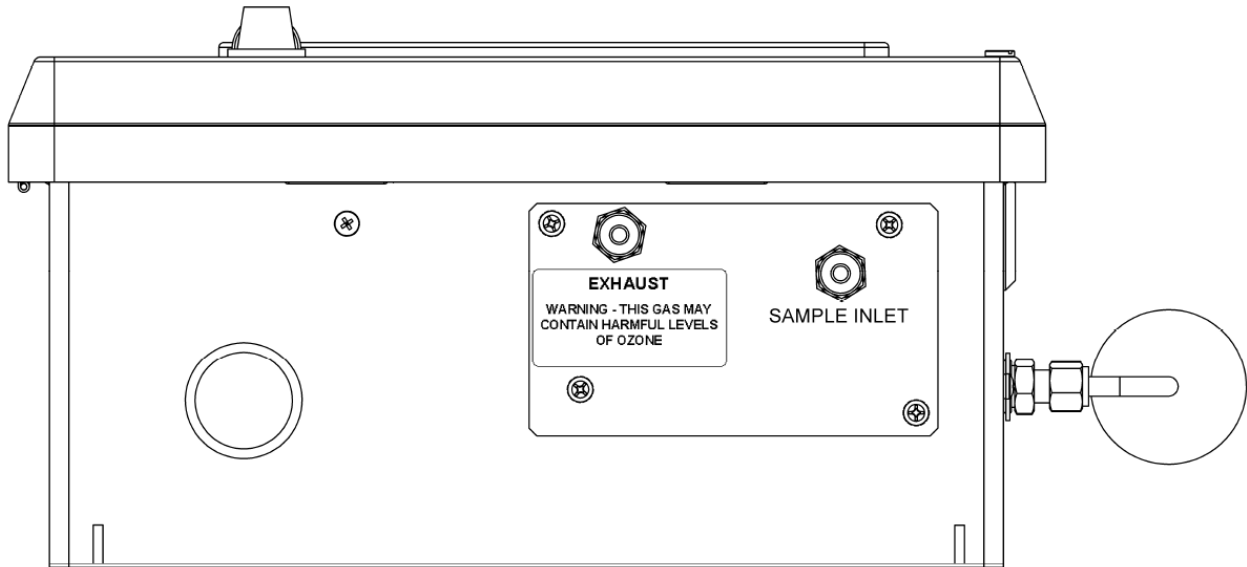

Figure 4-3: Pneumatic Connections
3. Connect sample inlet line(s) to the SAMPLE INLET (Figure 4-3).
Connect the exhaust fitting (Figure 4-3) to a suitable vent outside the monitor area.
Sample gas connections are made to the 1/4" tube fittings on the rear panel. (See Figure 4-3)